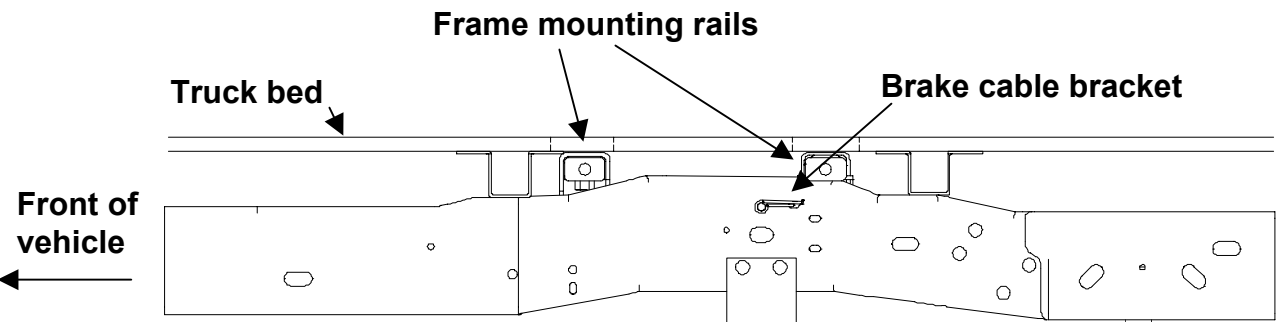

Figure 12
8. Remove the brake cable bracket located just above the rear axle on the driver's side of the frame (Figure 12).